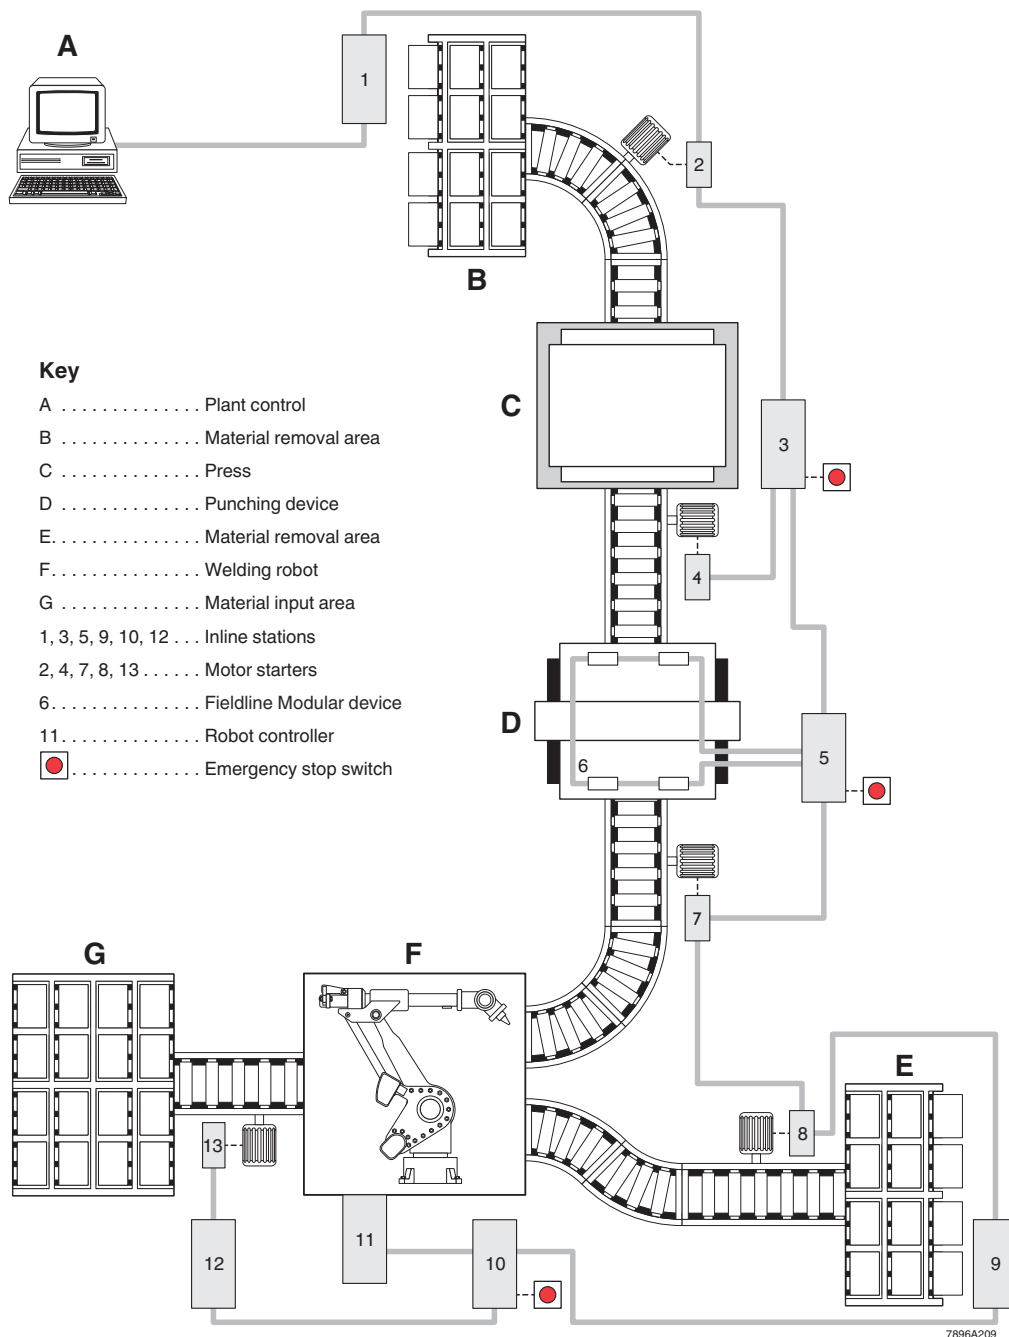

Figure A-3 Example plant layout controlled by a PC and using Inline
Figure A-3 shows an example plant layout. It is controlled by a PC and using the Inline product family. A brief description of Inline products and their function is provided in the following paragraphs.
A. Tour of the example plant (see Figure A-3)